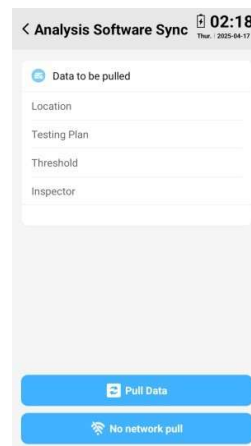

Figure 3 Waiting for a connection
- (1) Click the "Pull Data" button on the device side to enter the data pull interface, as shown in Figure 3, and then click the "Pull Data" button at the bottom of the interface to open the service;
- (2) Click the "Start Push" button in the analysis software, enter the device IP, and click the "Push Data" button to start the data transmission service;
- (3) After the data transmission is completed, the pulled data can be viewed on the device.